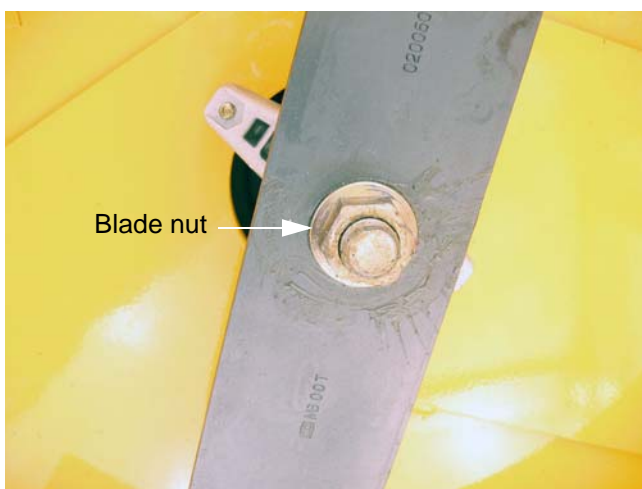

Figure 8.4
3. Remove the blade nuts using an impact wrench and a 1 1/8" socket. See Figure 8.4.